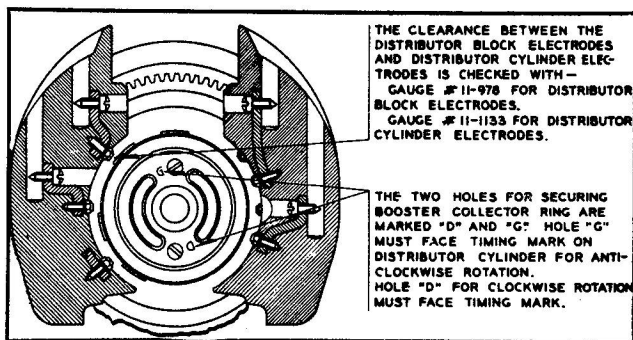

Figure 7—Cross Section View of Distributor Cylinder and Distributor Blocks
(1) See that the electrodes are clean and tight in place. If new electrodes are installed, they must be checked with template No. 11-978 to insure that the required clearance between them and the distributor cylinder segments is maintained. (See figure 7.) Use tool No. 11-1157 for machining distributor block electrodes newly installed.
(1) Make sure that the dog screw is tightened and locked in the hole located in the face of the large distributor gear marked "D" for clockwise rotation, and "G" for anticlockwise rotation. The booster collector ring is secured to the distributor cylinder with two screws. One screw hole is marked "D" and the other "G". The hole marked "D" must face toward the straight line or timing mark on the distributor cylinder for clockwise rotation the hole marked "G" must face towards the straight line or timing mark. (See figure 7.)
(2) Place the distributor cylinder in position on the large distributor gear having the dog screw in the face of the gear engage a corresponding hole located on the flat surface of the distributor cylinder and then install the lock ring.
(3) Install the insulating plate and the safety gap bridge to the magneto housing with their two securing screws. These screws must be staked after they have been tightened.